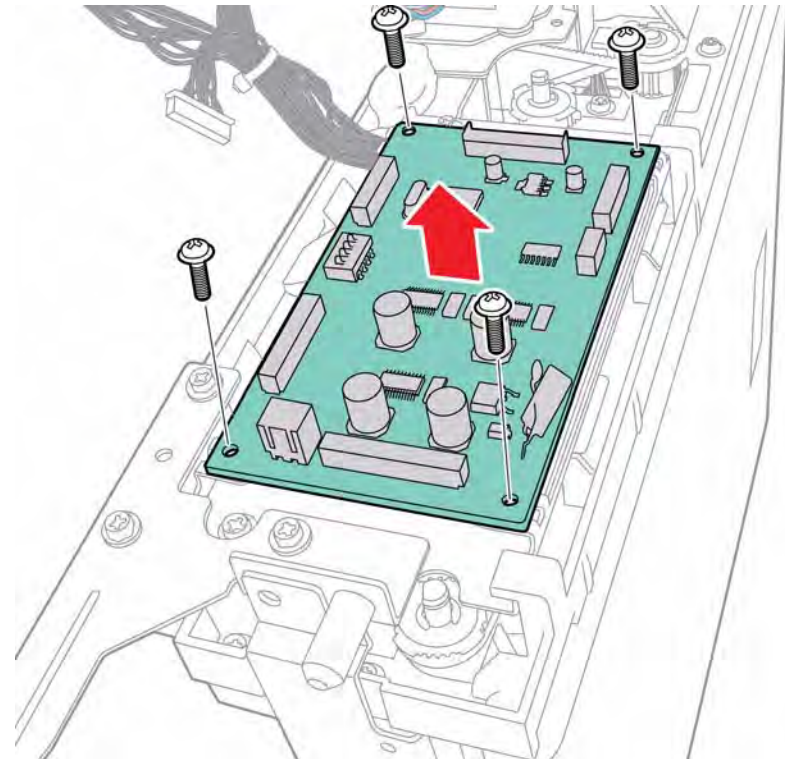

Figure 5 Mailbox Control Board
- Mailbox Control Board, Figure 5.